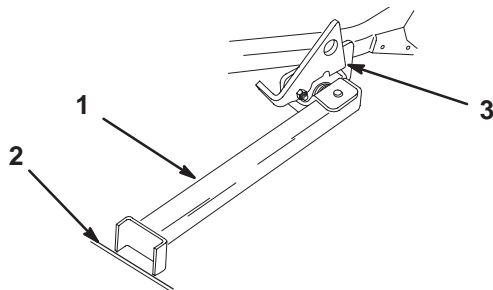

Figure 16
4. Set foot of stand on the ground and rest latch on pivot tab (Fig. 16).
Note: For best results, place foot of stand into seams in sidewalks or into turf (Fig. 16).
6. Drive onto stand. Stop when latch drops over tab into locked position (Fig. 16). Once onto stand, engage parking brake. Shut off engine.